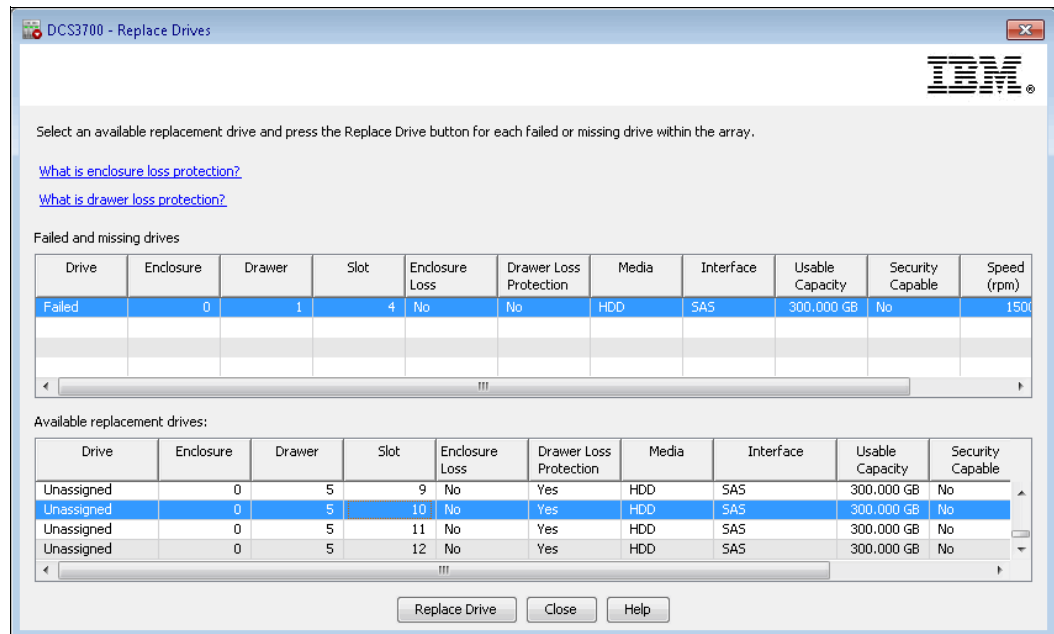

Figure 9-17 Replace Drives - Select disk
2. The list of eligible replacement disk drives displays in the window (Figure 9-17).
You also have a choice to select the In-Use Hot Spare drive as a replacement drive (see Figure 9-17 on page 320). If this hot spare disk drive is defined and is in use by the array with a missing or failed disk, you must wait until the DCS3700 controller reconstructs parity of all the logical drives in that array.
4. Click **Replace Drive** to start the operation. The confirmation window opens. Click **OK** and a new updated window similar to Figure 9-17 on page 320 shows any remaining missed or failed drives to replace. Continue with the replacement or click **Close** to finish.